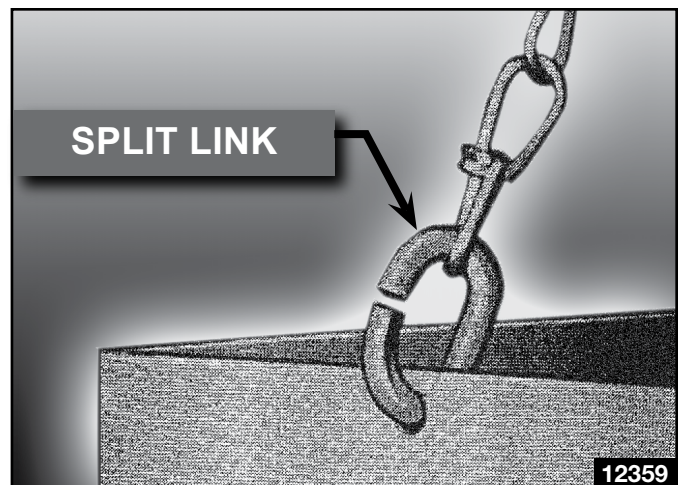

Figure 2. Support Chain at Container
- Open split link and connect one end of support chain to hole in chain container. See Figure 2.